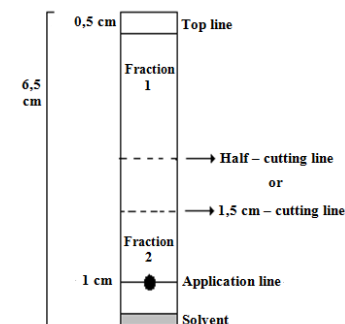

Figure 1 – Cutting the chromatography plates
Use a 3mm Whatman plate and a silica gel 60 plate measuring 6.5 cm long and 1 cm wide, as shown in figure 1. Once the complexation incubation time has elapsed, add a drop of the material on the application line of each of the plates. Place the Whatman plate (1) in a chromatography tank containing butanone PA, and the silica gel 60 plate (2) in a chromatography tank containing 0.9% NaCl. Wait until the solvents migrate to the top lines of the plates, which can happen at different times. Remove the plates from the chromatography tanks. Cut PLATE 1 in half and PLATE 2 1.5 cm from the application point. Calculate labeling efficiency using the formula below. Analyze the results of labeling efficiency in accordance with table 2.